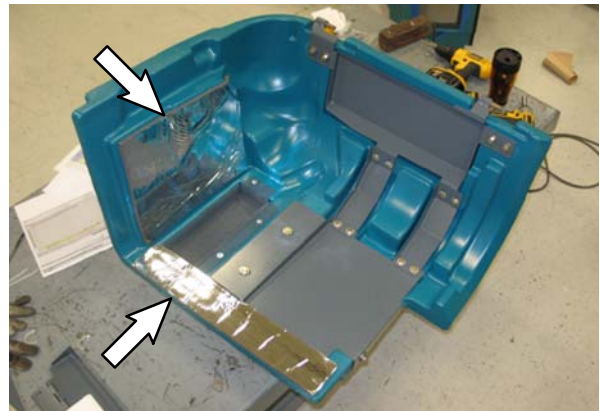

FIG. 91
112. Install insulation (23) and (24) onto the left rear cover (79). (Fig. 91)